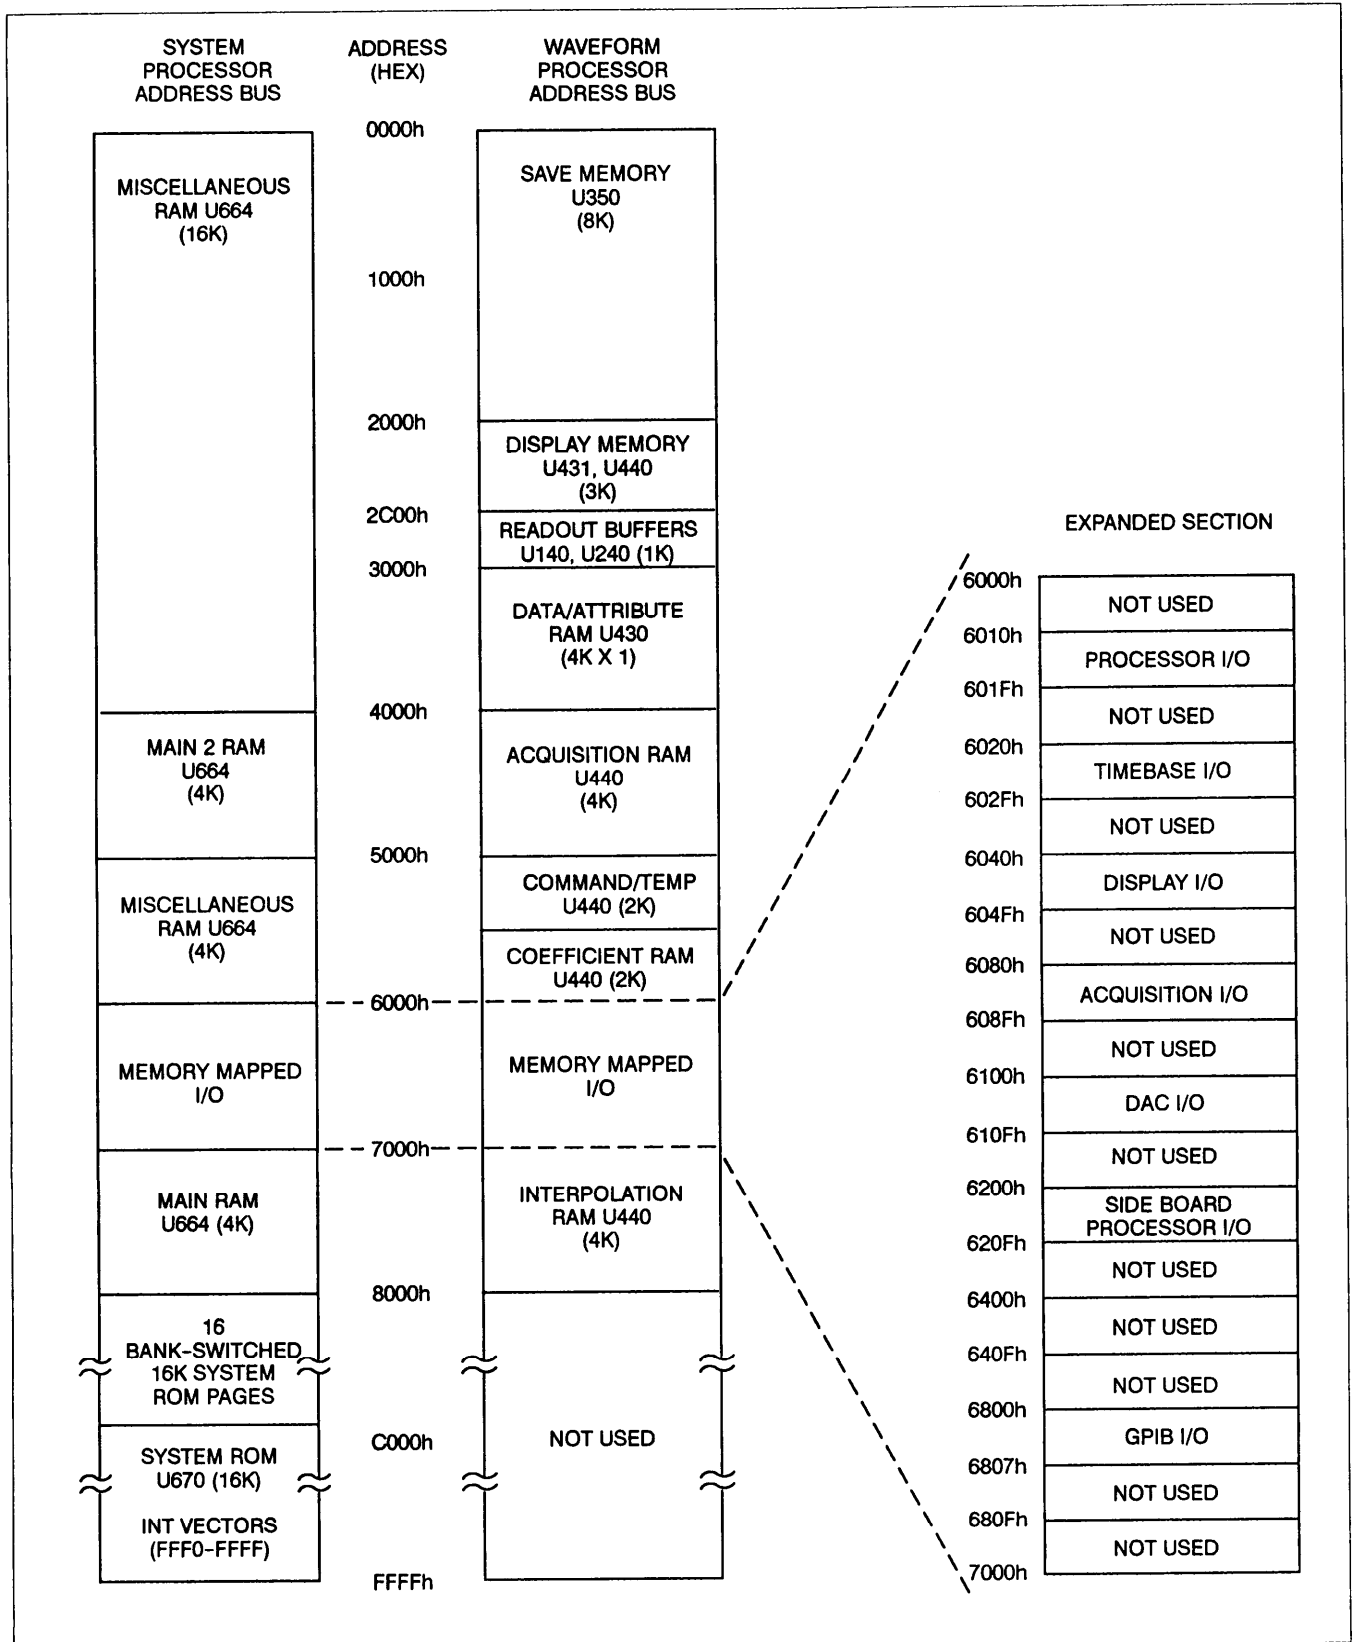

Figure 3-2. Simplified Memory Map of the OS-291/G.
**MEMORY MAP.** Figure 3-2 is a memory map showing the different memory areas and the address blocks they occupy on the System Processor and the Waveform Processor Data Bus. Addresses output by the System Processor and/or the Waveform Processor access the memory indicated in the address block depending on how those addresses are decoded. Refer to Figure 3-2 as the address blocks are discussed (both here and later for the Waveform Processor RAM).
Inverting buffer U830, enabled by HMMIO for I/O operations, applies the inverted middle bits of the address bus to various functional modules as selects. The firmware routines will allow only one of these select bits to be set LO at a time. In the selected circuit, further address decoding is enabled. Figure 3-2 illustrates the System Processor address memory map and shows the blocks assigned for memory-mapped I/O. Each of the memory-mapped I/O blocks consists of 16 consecutive addresses from 6000h to 7000h with various functions assigned to specific addresses. These functions include clocks, chip enables, and circuit enables. Each is explained in the descriptions of the circuits they affect.
Due to its architecture, the Waveform Processor outputs different address blocks than those required to access the various memories on the Waveform Processor Data Bus (see fig. 3-2). U366 selects either address bit DADC or DADB for output to address WAB of the Waveform Processor Data Bus, depending on the condition of its three most-significant address bits, DADC, DADE, and DADF. AND-gate U276B detects when these bits are all HI and outputs a HI to the “A” select input of the multiplexer. With the “B” select input held HI for all Waveform Processor accesses by BUSCONNECT, U366 routes DADB to address bit WB via address latch U562.
Decoding circuitry uses the signals WPRAM,  $\overline{\text{MAIN}}$ ,  $\overline{\text{MAIN2}}$ , and HMMIO; System-Address bits A3, A4, and AF; and BUSTAKE/BUSGRANT to determine when to enable U552 and connect the System Data Bus to the Waveform Data Bus. The addresses that produce accesses to the Waveform RAM (and require U552 to be enabled) are shown on the memory map, Figure 3-2. (Also, see “System Address Decode,” appearing earlier in this section.)